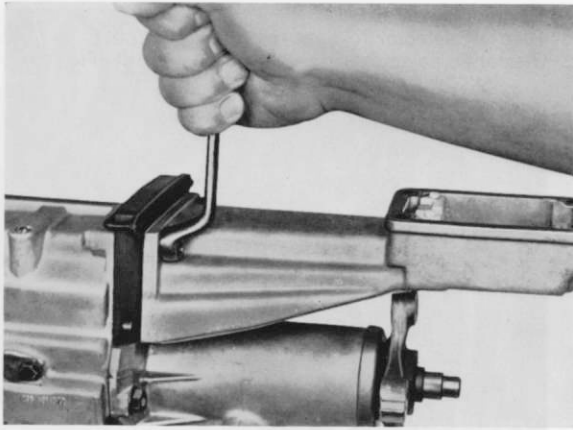

Fig. 5
- 1.4 Screw off the 4 nuts (648) on the selector arm (619) (Fig. 5) and pull selector arm over the selection rods. Take pivot piece (624) out of selector arm.